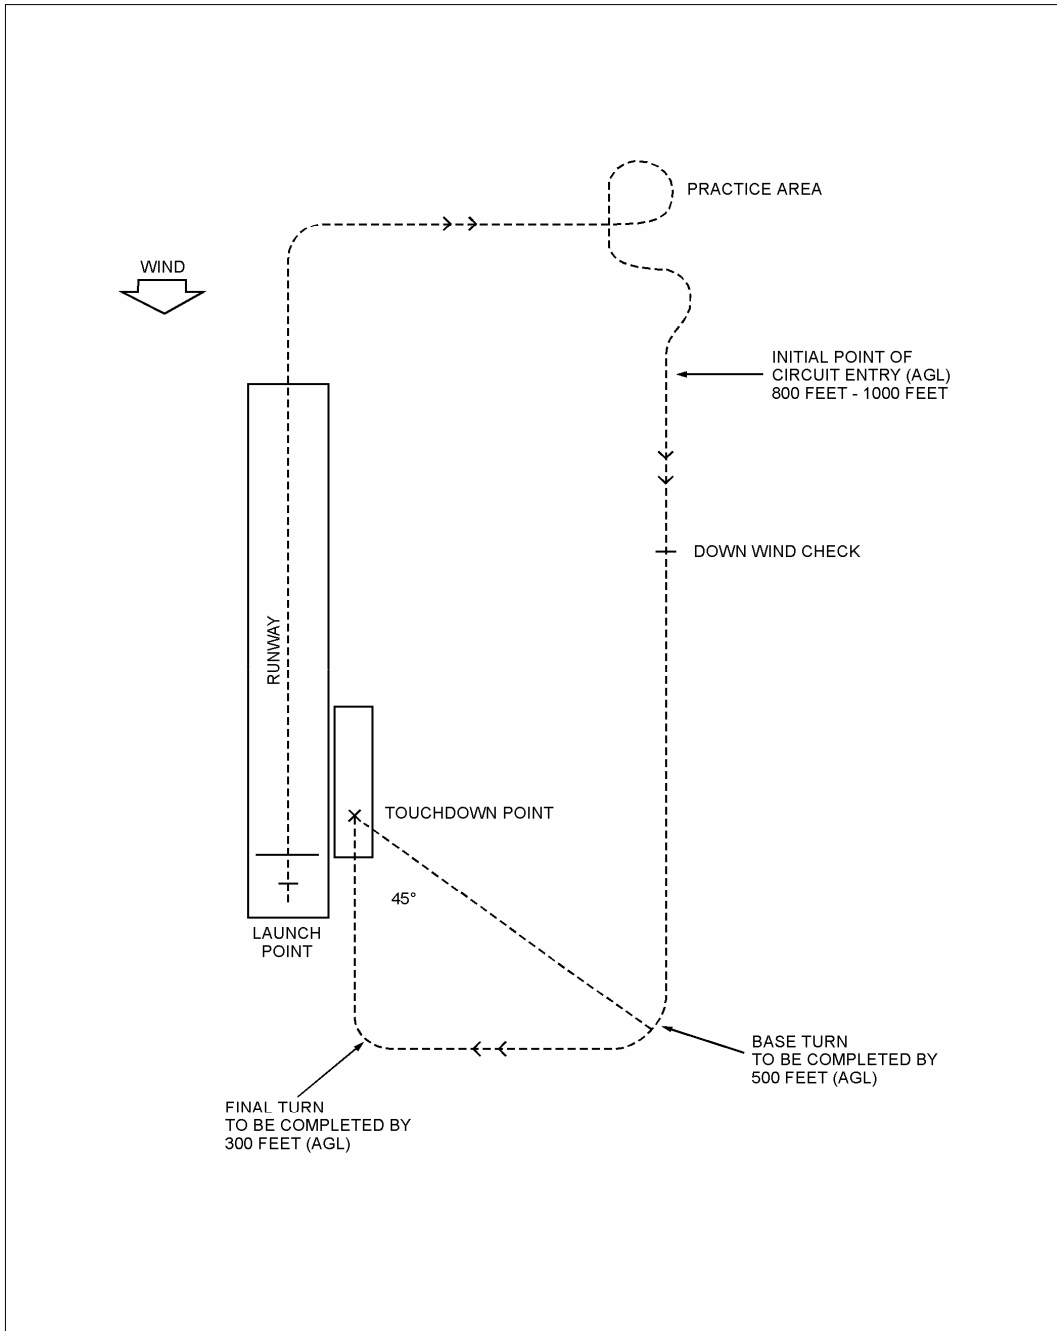

Figure 2-2-2 Example of a Right Hand Circuit
24. Circuit procedures in the ACGP shall be based on an ideal circuit consisting of the Initial Point, Downwind, Base Turn, Base Leg, Final Turn, Final Approach and Landing (Figure 2-2-2).